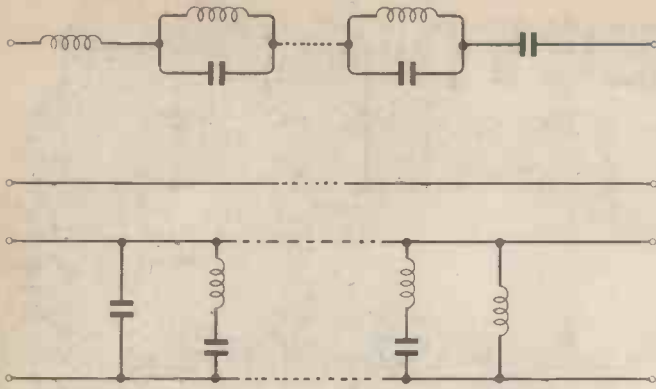

Fig. 4. Pair of canonical two-terminal reactance arms.
It is worth stressing that the dummy branch technique can always be applied, subject to the limitation of a total of ten branches imposed by the present program. The justification for this is the theorem that a two-terminal reactance arm can always be transformed into one of the two configurations of Fig. 4 (ref. 1), for which reason they are sometimes called canonical networks. Of course, not all of the inductors and capacitors have to be present, so the two examples given above are obviously included. It will sometimes involve the transformation of one configuration into another, but this is comparatively simple provided a reference table of equivalent circuits is available².